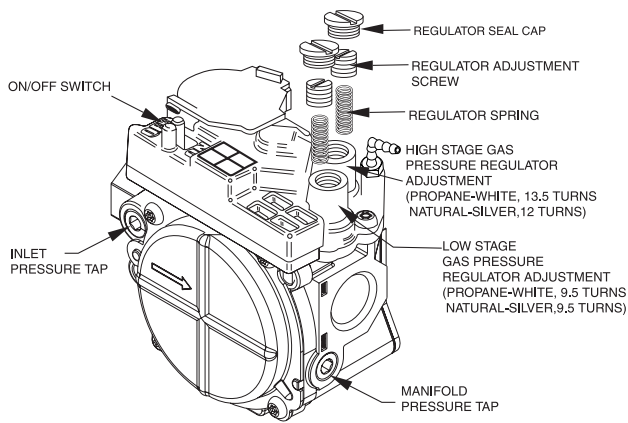

**Fig. 58 - Series G and J Gas Valve**
**NOTE:** For 2-stage and variable-speed furnaces with a Series G / J gas valve, (see Fig. 58) they **MUST have both regulator springs replaced** and the gas valve **MUST be pre-adjusted**.
For Fig. 58 (Series G and J Gas Valve)
2. Remove 1/8-in. (3 mm) pipe plug from inlet pressure tap on gas valve. (See Fig. 58 or 59.) DO NOT DISCARD 1/8-in. (3 mm) PLUG.
2. Remove 1/8-in. (3 mm) pipe plug from manifold pressure tap on downstream side of gas valve. (See Fig. 58, 59, and 66.)
- a. Remove caps that conceal adjustment screws for gas valve regulators. (see Fig. 58 or 59.)